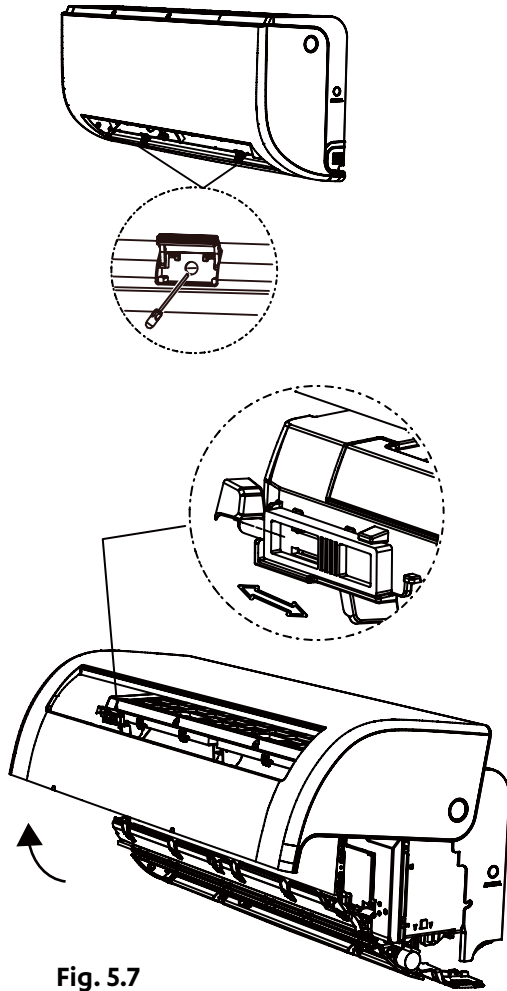

Fig. 5.7
2. Open and fix the position of the panel firstly, unscrew the two screws showed in the picture below, then open the panel, and fix the position of the panel by the latch (see Fig.5.7).
2. Open front panel of the indoor unit by loosening the screws according to picture Fig. 5.7, which provide big space for wiring connection.